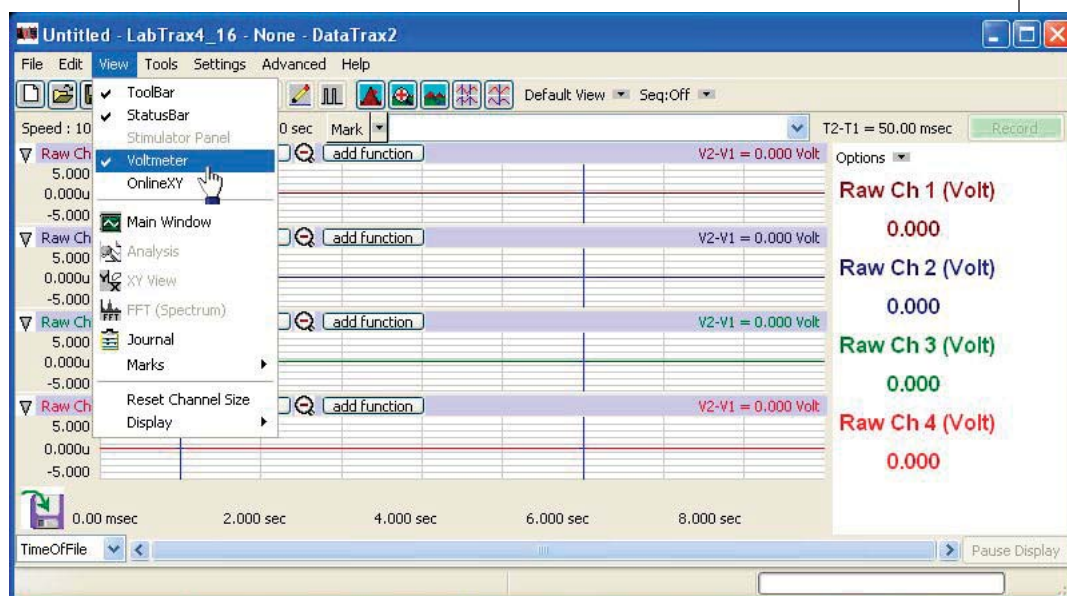

Fig. 42—Main LabScribe window with voltmeter
**TIP:** To display a running meter beside the main LabScribe display window (Fig. 42), select the **View** menu and choose **Voltmeter**.